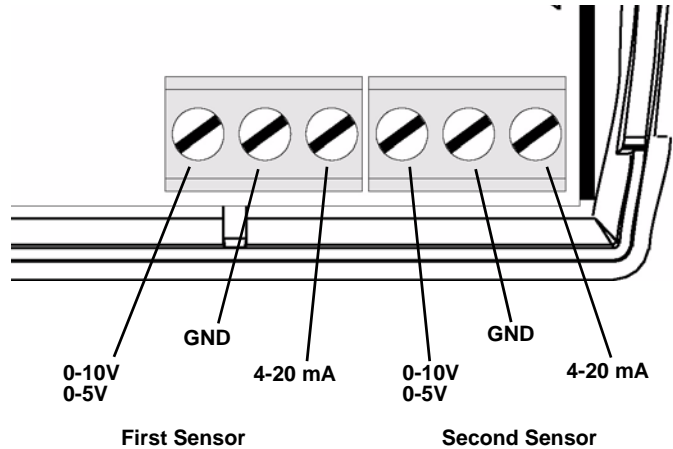

Figure 2 EE1702 External Sensor Wiring
2. Referring to Figure 2, use a small screwdriver to attach the external sensor(s) wiring leads to the appropriate terminal blocks.